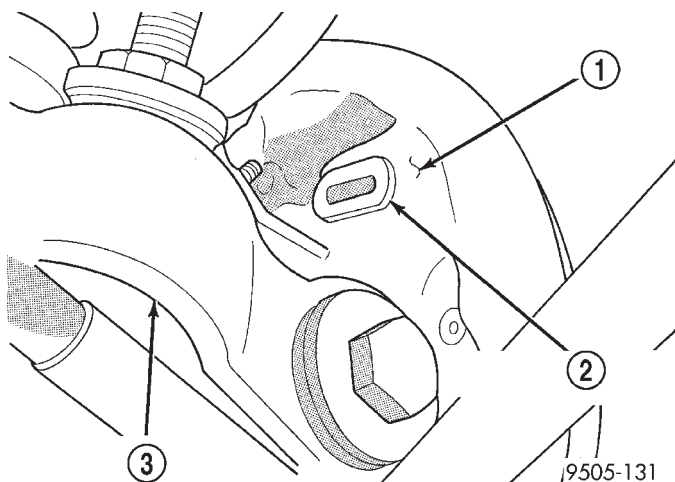

Fig. 115 Automatic Adjuster Access Hole Plug
(1) Remove the rubber plug from the brake support plate (Fig. 115).